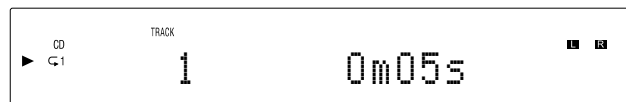

Figure 22
1. With the disc playing (Regular, Program or Random Playback Modes), press the SHIFT Push-button then the REPEAT Push-button once to activate the Track Repeat (C1); press the REPEAT Push-button twice to activate the Disc Repeat (C). Refer to figures 22 and 23.